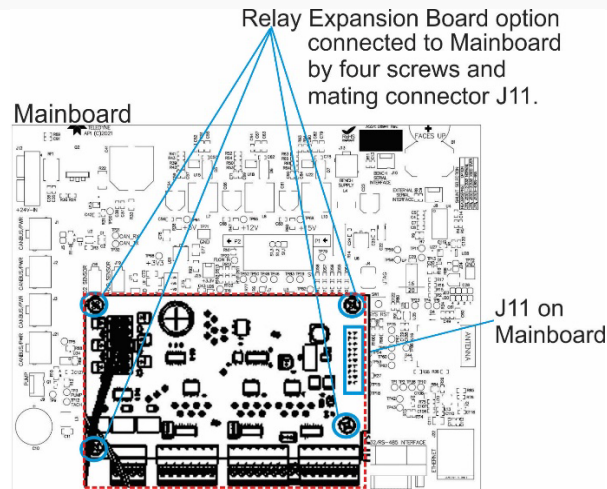

Figure 7-7. Relay Board Removal
2. Locate the relay expansion board (Figure 7-7), and remove the four screws.